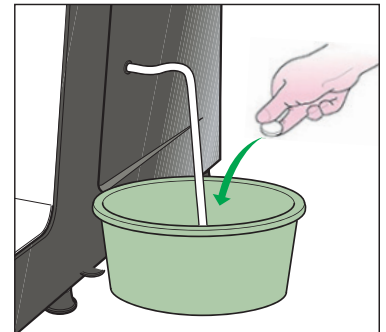

Fig. 2
- 5 Add a cleaning tablet in the container. (Fig. 2)